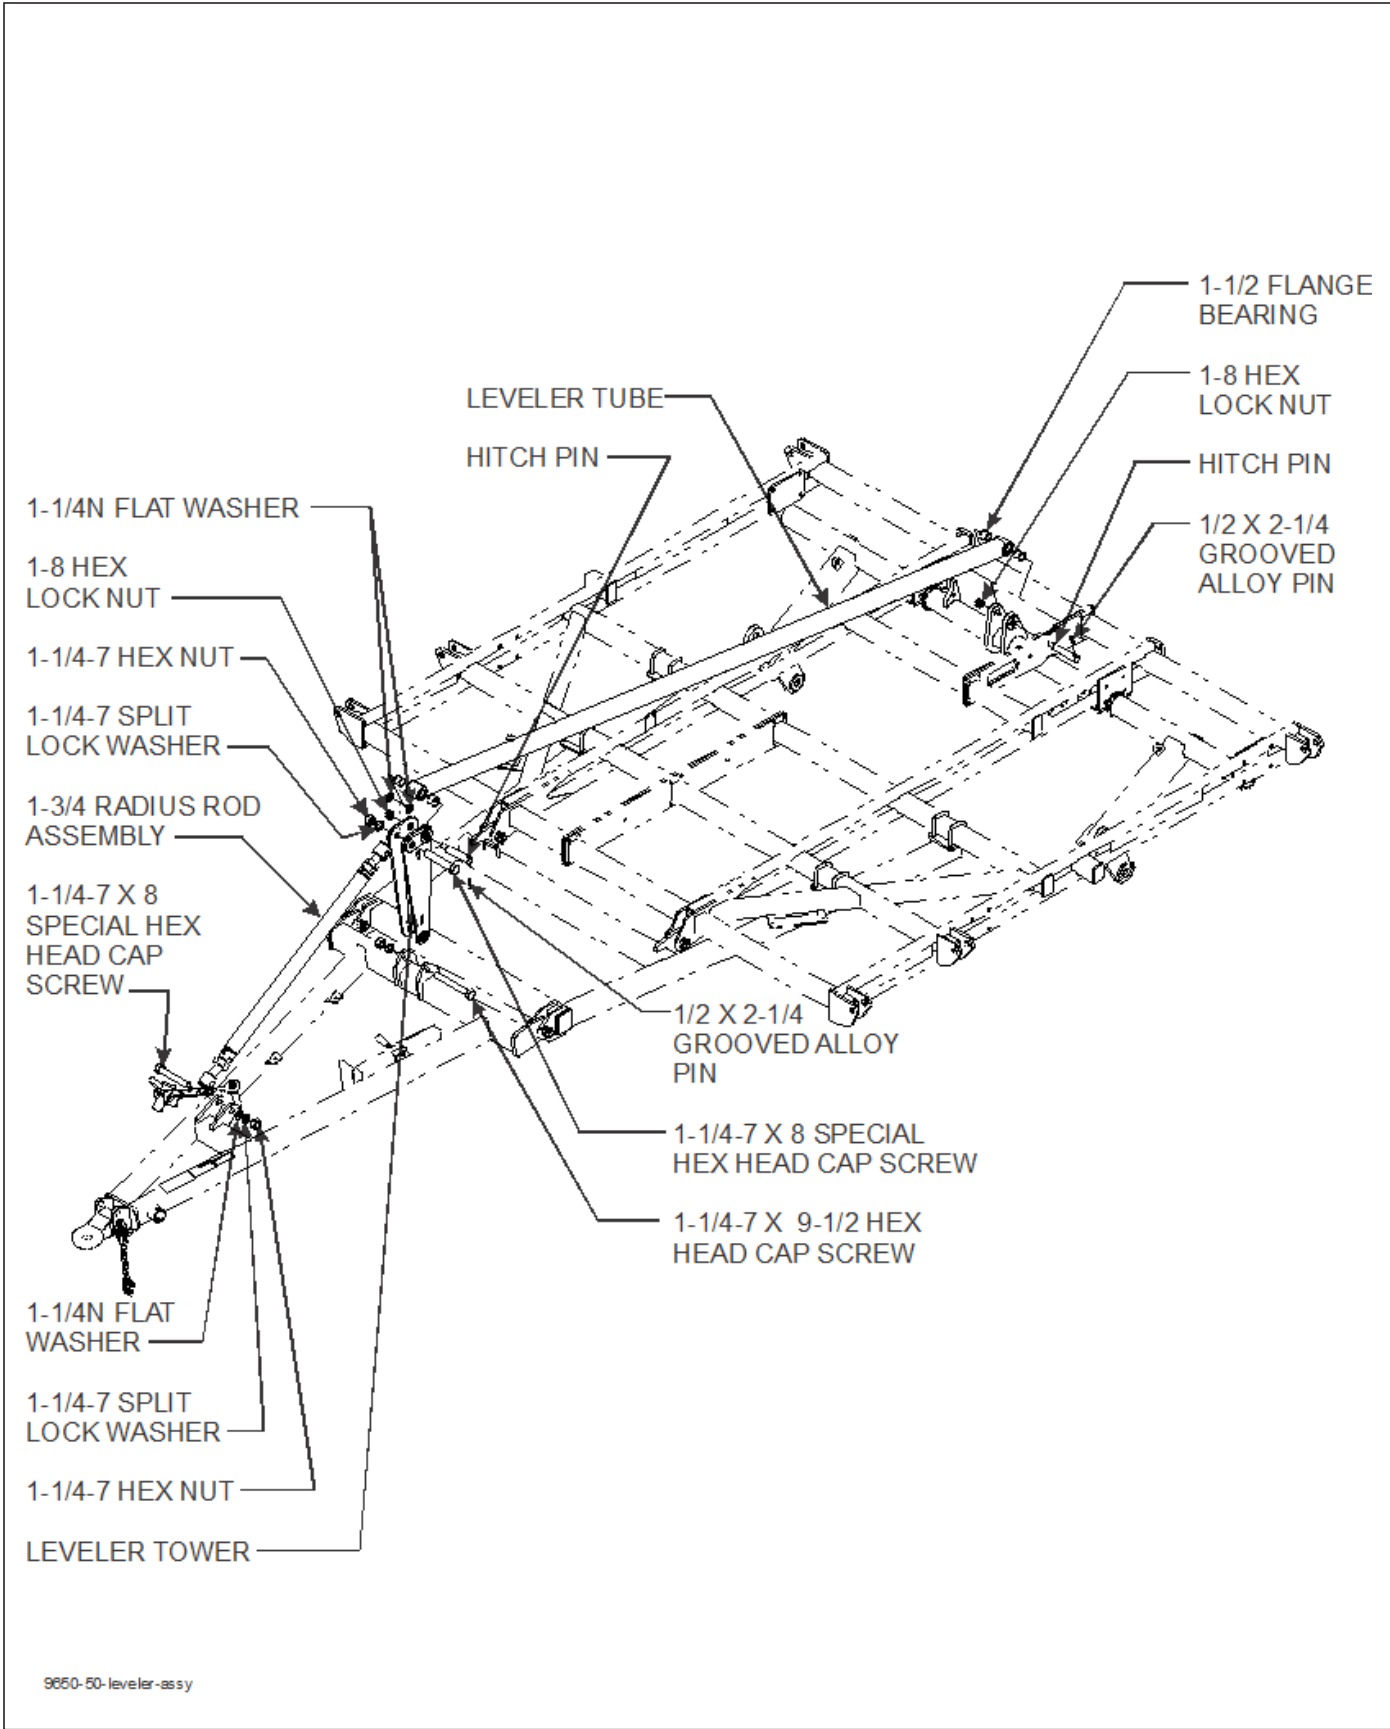

Figure 3-3: Leveling Linkage Assembly
2. Attach rear of leveler tube to the center lift using hitch pin, 1-1/2 flange bearings, 1/2 x 2-1/4 grooved alloy pin, and 1-8 hex lock nut **See Figure 3-3**.